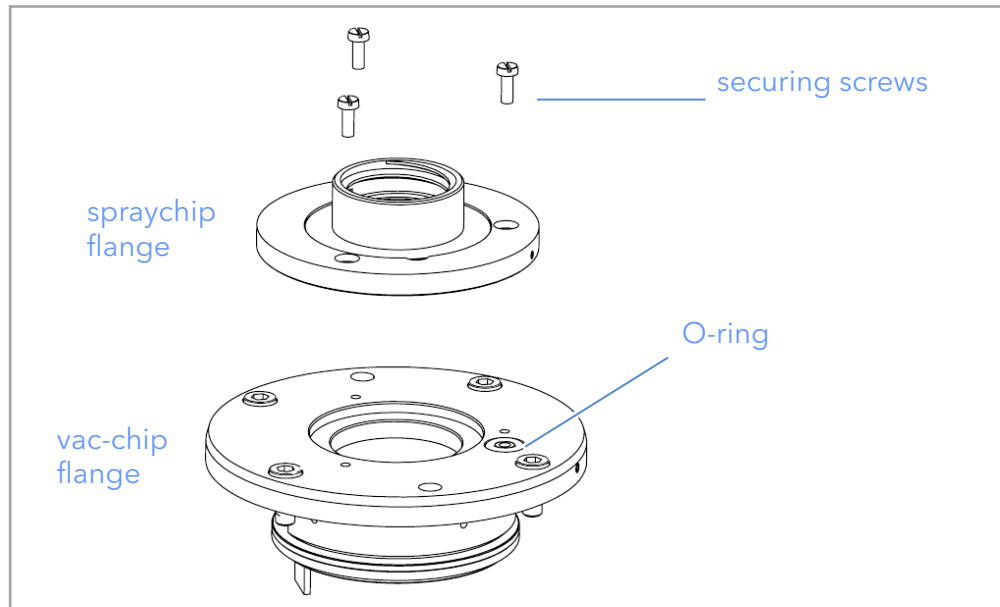

Fig.7 Assembling spraychip flange to the vac-chip flange
1. Ensure the O-ring is present and then lower the spraychip flange down onto the front face of the vac-chip flange. Align the three mounting holes with the threaded sections on the vac-chip flange, as shown in Fig. 7.
The vac-chip assembly houses the vac-chip and the tube lens assembly (Fig. 7). The vac-chip assembly will be fitted and removed from the MiD as part of routine customer maintenance procedures whenever the vac-chip needs to be cleaned or replaced (see „8.7 Removing and replacing the vac-chip“ on page 42 for further details).